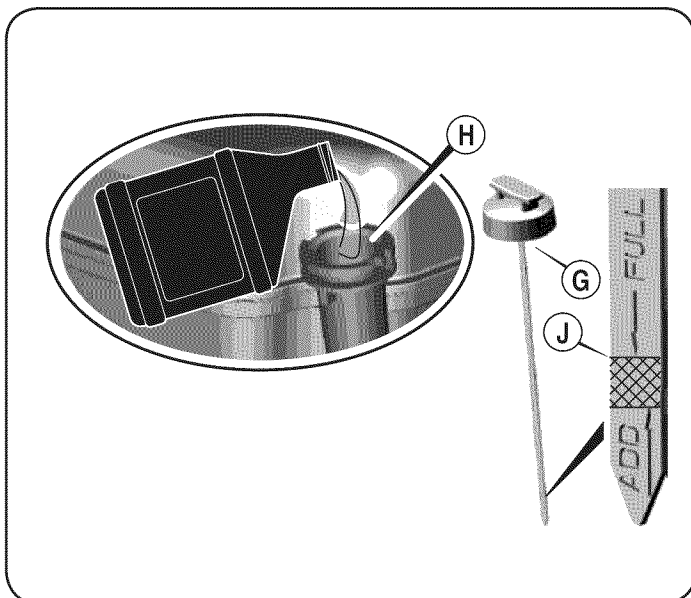

Figure 19
1. Remove the dipstick (G) and wipe with a clean cloth. See Figure 19.